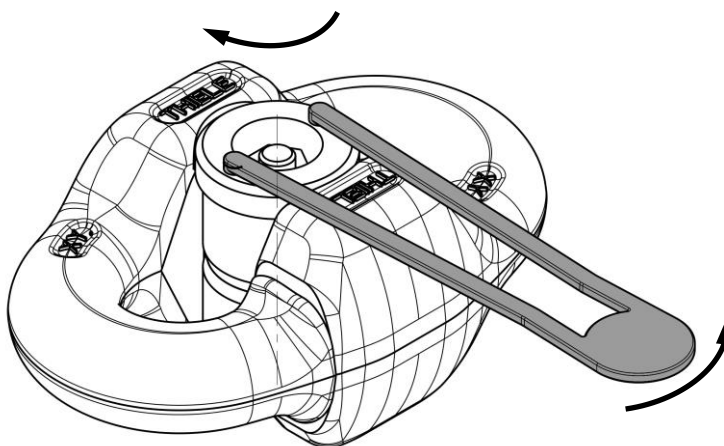

Figure 4: Secure lock
- Secure the lock module with the wedge washer. Use the face pin wrench to secure the lock from rotating (refer Figure 4 below) and torque the wedge washer nut in accordance with torque values tabled below.